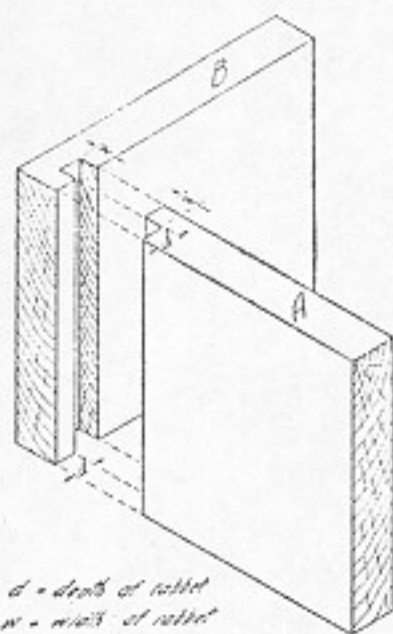

Fig. 191. Dado-and-rabbet joint.
1. The pieces are squared to dimensions, and the thickness of the rabbeted member, A (Fig. 191), is gauged on the dado member, B, with a marking gauge.